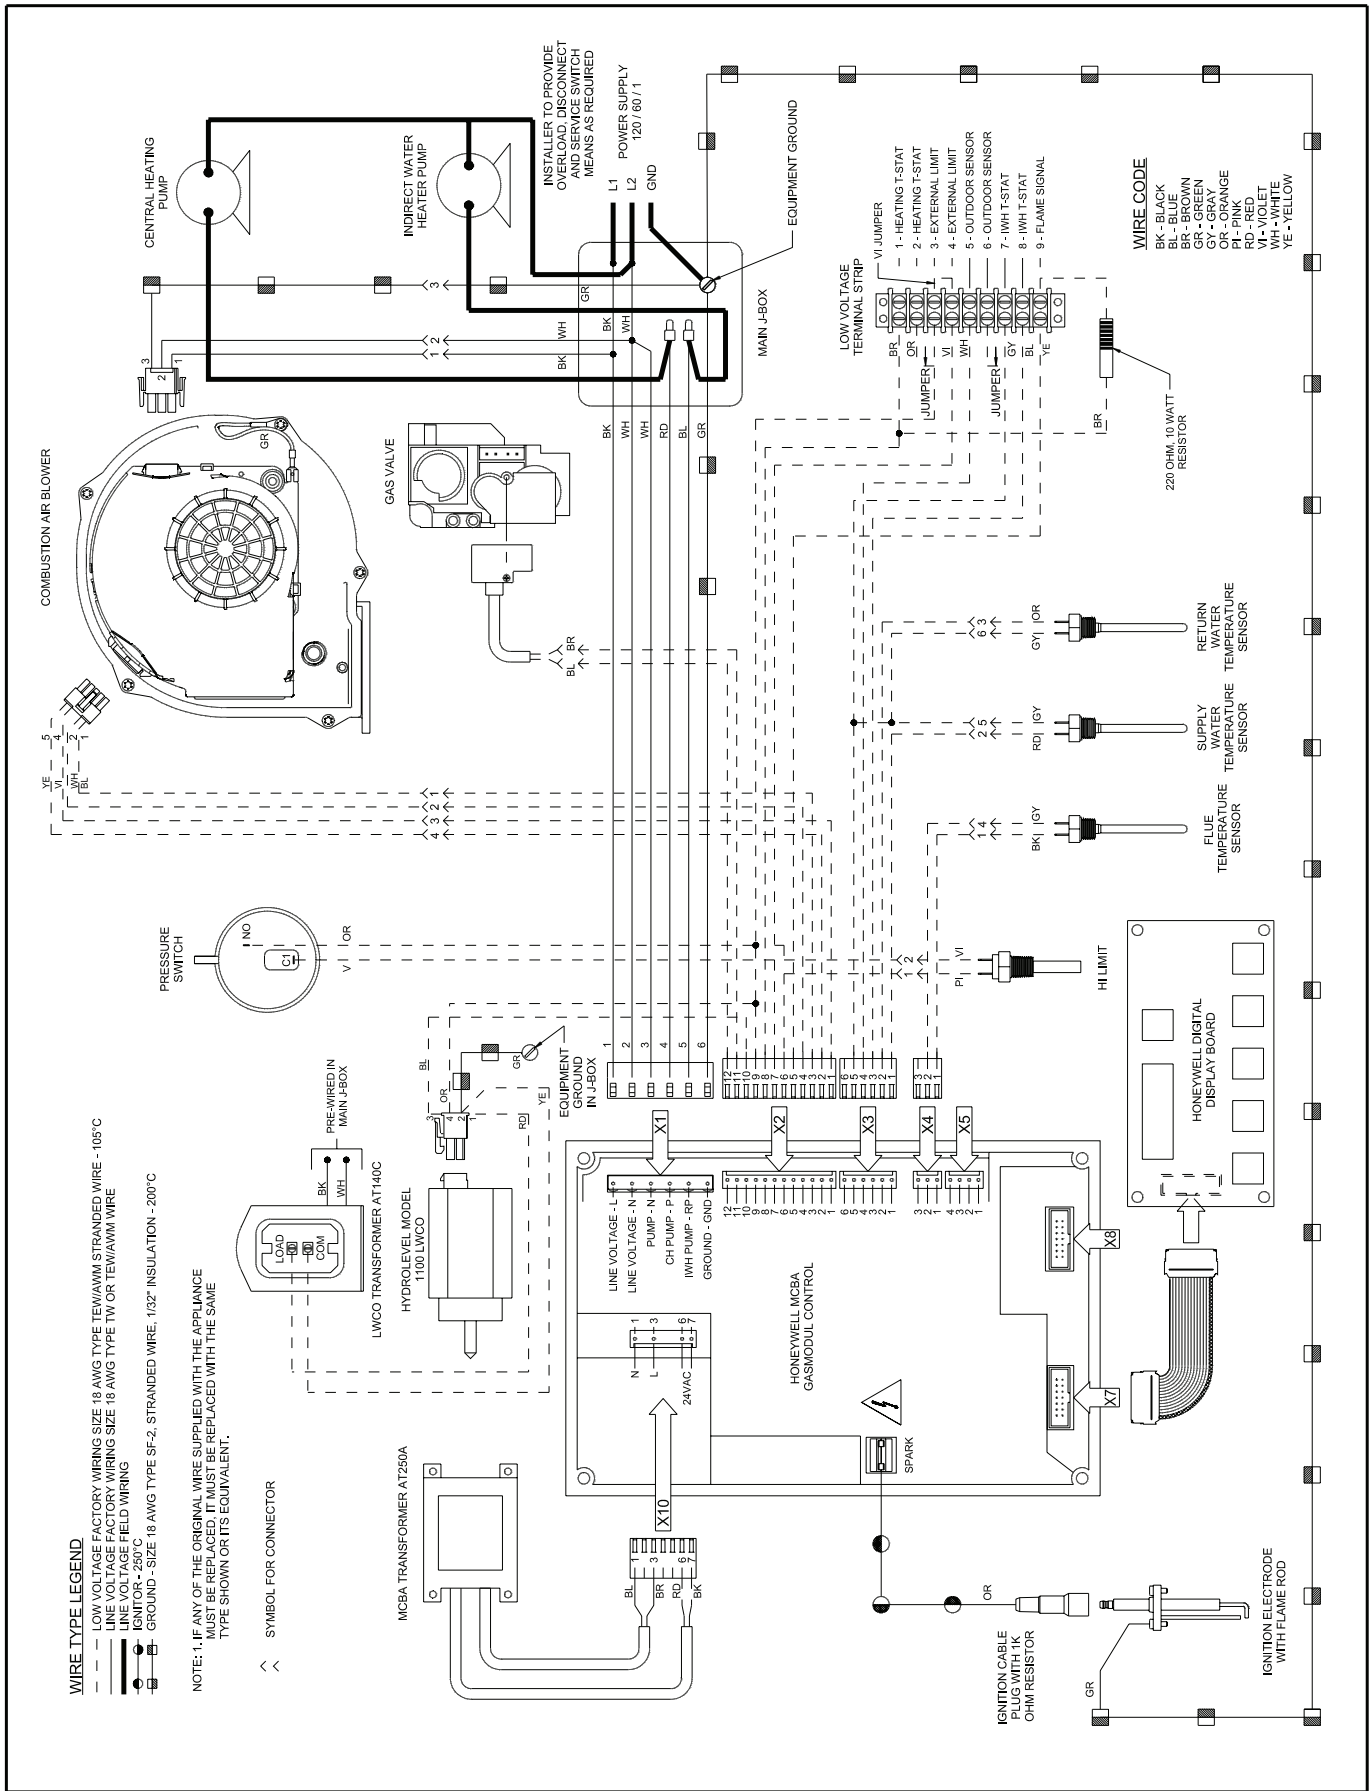

Figure 9.1: Wiring Connections Diagram
- 8) Manual Reset High Limit (Required by some codes) - This control is required by ASME CSD-1 and some other codes. Install the high limit in the boiler supply piping just above the boiler with no intervening valves. Set the manual reset high limit to 200°F. Wire the limit per Figures 9.1 & 9.2 in the Wiring section.
- 1) Line Voltage (120 VAC) Connections (Fig 9.1) – The line voltage connections are located in the junction box on the right side of the vestibule:
- 3) Low Voltage Connections (Fig 9.1) – These connections are screw terminals located on the terminal strip next to the junction box on the left: